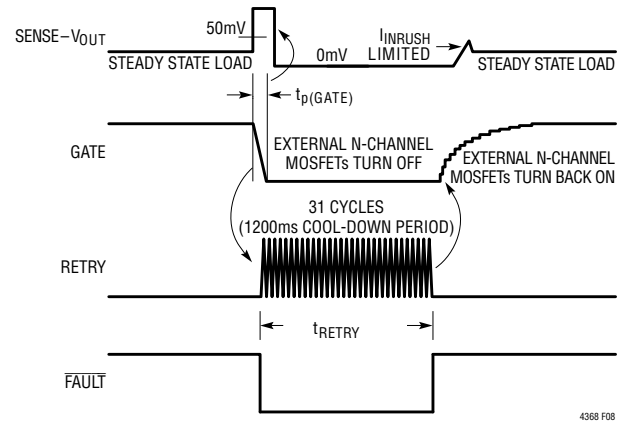

Figure 8. Forward Overcurrent Fault with $0.22\mu F$ RETRY Capacitor
1. Automatically restart by placing an external capacitor on the RETRY pin. An internal cool-down timer will charge/discharge this capacitor 31 times with a 5.5ms/nF total delay. At the end of this delay, the external MOSFETs are turned back on, thus reconnecting the load to the input supply. The 0.22 μ F capacitor (C_{RETRY}) in the application of Figure 7 yields a 1200ms cool-down timer delay. Note that the adjustable cool-down period provides the user with a means of keeping the external MOSFETs within the rated SOA (safe operating area). See Figure 8 timing diagram.